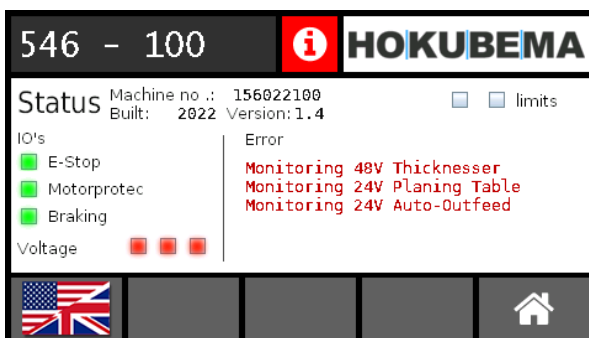

Figure 49: Info menu with status messages
- Status messages (example ⇒ Figure 49): Here the voltages required for operation are missing for the thicknesser, the pull-out (automatic outfeed) as well as for the surface planing table. Operation is only possible after the faults have been remedied. If the end position symbol is active, you must first move out of the end position range in the opposite direction so that the message becomes inactive and the control unit can be used for positioning again (see ⇒ 11.8.1).